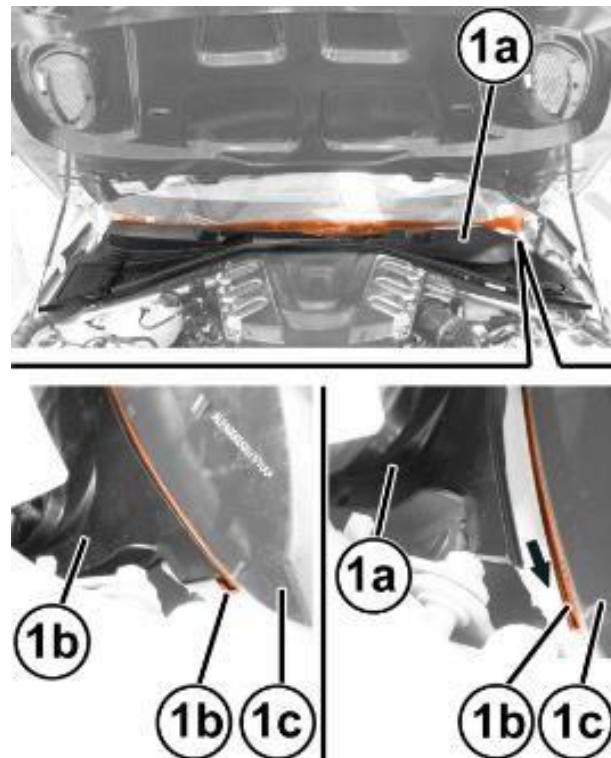

Figure 71 – Windshield Trim
96. Position the windshield base trim (1a) in position and engage the retaining profile (1b) along the entire windshield base (1c) (Figure 71).
NOTE: If necessary, use soapy water to facilitate inserting the trim (1a) into the retaining profile (1b) (Figure 71).
CAUTION: Do not press the trim (1a) excessively into the retaining profile (1b) to avoid damaging the windshield (Figure 71).